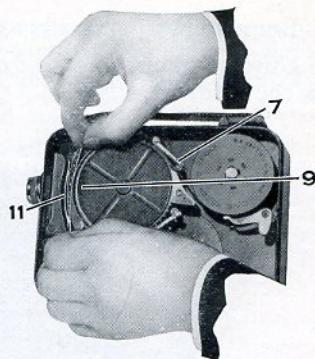
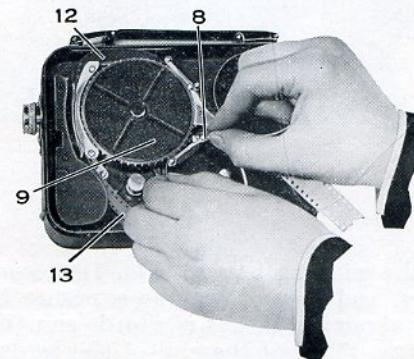
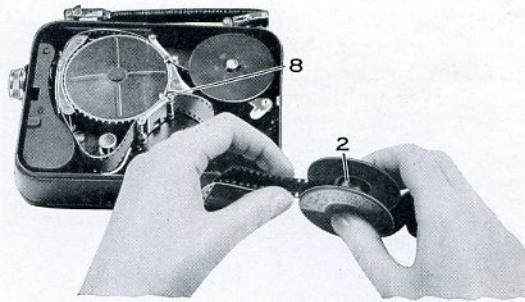
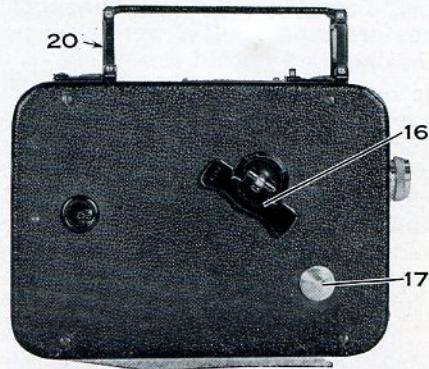

Fig. 5.
Fig. 6.
Fig. 7:
Fig. 10.
16 Winding Key	Used for winding motor, Fig. 10, page 13.
17 Exposure Button	Controls motor, turns it on or off, Fig. 10, page 13.
Form the upper loop 12, Fig. 6, page 9, and at the same time slide the leader into the slot 11 as indicated in Fig. 5. Be sure that the black side of the leader is towards the sprocket 9, and that the leader is pushed all the way in, so that none of it projects above the edge of the slot.
Be sure that the teeth on the sprocket engage the perforations in the leader, then close the upper sprocket clamp 7, Fig. 5, by pushing it towards the sprocket, slipping the knurled button over the post. See Fig. 7, page 10.
Form the lower loop 13 following the white line, and at the same time thread the leader between the sprocket 9 and the lower sprocket clamp 8, as shown in Fig. 6.
Be sure that the teeth on the sprocket engage the perforations in the leader, then close the lower sprocket clamp 8 by pushing it towards the sprocket, slipping the knurled button over the post. See Fig. 7, page 10.
Give the winding key 16, Fig. 10, page 13, a few turns, and press down the exposure button 17, until about six inches of film is run through the camera. Thread the end of the leader into the slot in the core of the empty take-up spool 2, as shown in Fig. 7. The flange of the take-up spool 2 which is marked with an *arrow*, must be *towards* you when threading the end of the leader into the core of the spool.
To wind the motor of the Ciné-Kodak Eight, raise and turn the winding key 16, Fig. 10, on the side of the camera. Wind up the spring by
turning the key to the right or clockwise, in the direction of the two arrows. Give it about 20 half-turns or until the spring is wound tight. Before winding the spring, be sure that the exposure button 17, Fig 10, page 13, is *up*.
To start the motor after the spring is wound, press down slightly the exposure button 17, Fig. 10, page 13. To stop the motor, release the pressure. When the exposure button is pressed part way down only, it will automatically spring back when the pressure on it is released. If the button is pressed all the way down it will stay there until it is pushed up again.
If the operator wishes to be included in the picture, place the camera on a tripod (it has a socket for this purpose) or on some level, steady, firm support. Press down the exposure button 17, Fig. 10, page 13, *as far as it will go*, when it will lock in position, and step into the picture area. To stop the motor, step out of the picture area, return to the camera and push up the button.
To bring the finder to position, raise the carrying handle. Hold the camera firmly against the cheek with arms braced against the body, then locate the subject by looking through the sight 20, Fig. 10, page 13. One position for holding the Ciné-Kodak Eight when making an exposure,
When making an exposure, hold the camera level, as shown in Fig. 11, page 15, and frame the subject through the finder, then press down the exposure button 17, Fig. 10, page 13.